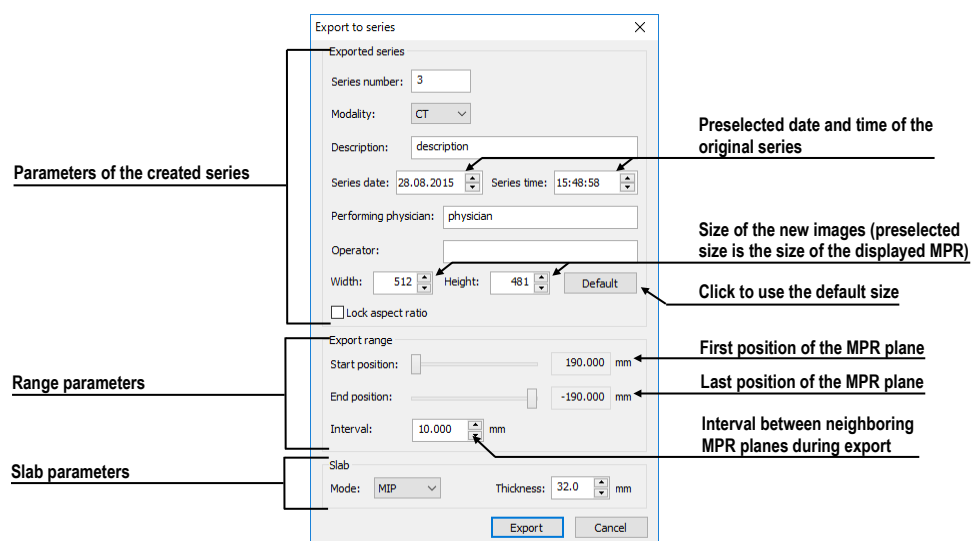

Figure 296 – Export to series dialog
3. The **Export to series** dialog will be displayed in which you can set the parameters for MPR export (see Figure 296).